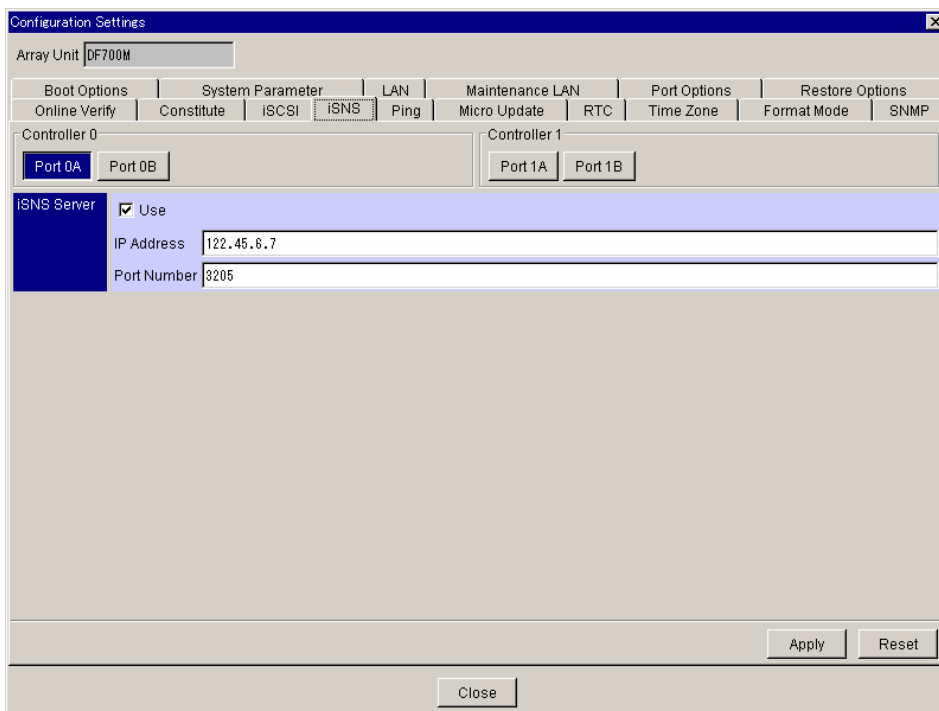

Figure 5.50 Setting iSNS Server Information
3. Click the **iSNS** tab (see Figure 5.50). For a detailed description of the **iSNS** tab, refer to section 5.1.11.